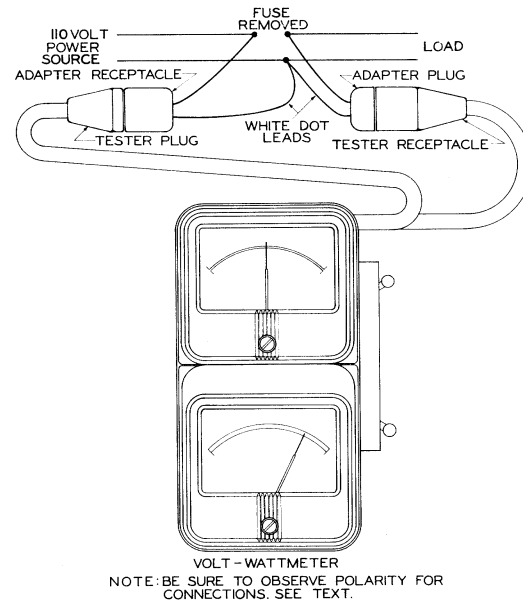
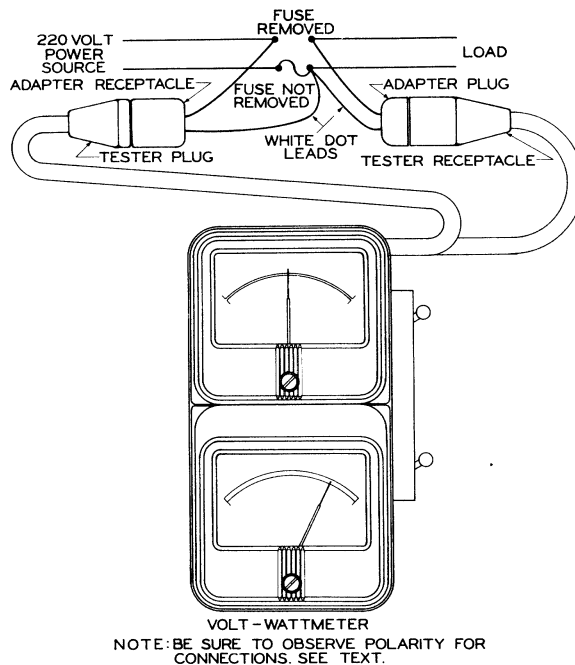

FIGURE 4. CONNECTING A VOLT-WATTMETER IN PLACE OF A FUSE IN A 110 VOLT CIRCUIT
FIGURE 5. CONNECTING A VOLT-WATTMETER IN PLACE OF A FUSE IN A 220 VOLT CIRCUIT
the instrument in place of the circuit fuse as indicated in figure 4 or figure 5.
4. Connect the adapter wire which is the white dot lead to the common, or unfused, side of the line in the fuse box. Connect the other adapter lead to the "hot" side of the line on the power side of the fuse (as shown in figure 4).
6. Connect the adapter wire which is the white dot lead to the common, or unfused, side of the line in the fuse box. Connect the other adapter lead to the "hot" side of the fuse (as shown in figure 4).
Figure 5 shows the circuit connections which you can use to make similar connections for measurements in a 220 volt circuit. Use the same steps as for 110 volt circuits, described above, and use the side of the line from which you do not remove the fuse the same as the unfused line in 110 volt circuits. Be careful to observe lead polarity to prevent any damage to the instrument. Be sure to remove power from the circuit before you connect or disconnect any of the parts for these measurements.